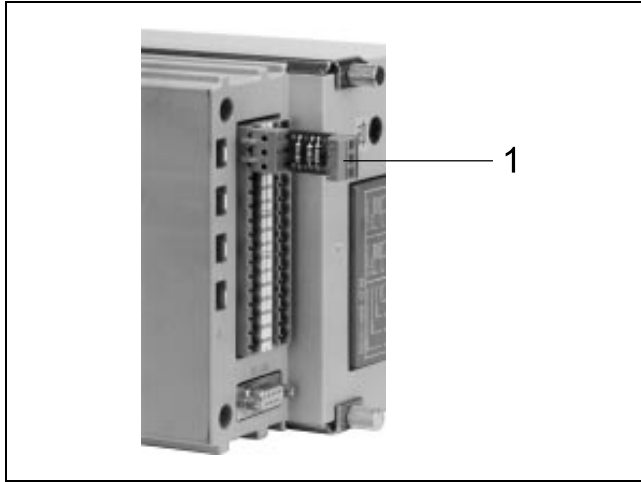

Fig. 5 Connecting measuring signals via an adapter
- Fix the signal leads with a max. cross-section of $2 \times 1 \text{ mm}^2$ into the adapter and insert the adapter onto the corresponding channel (see Fig. 5).